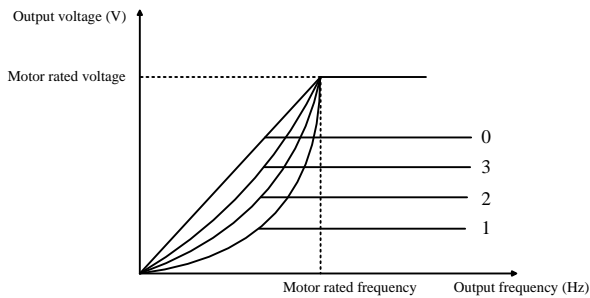

Figure 4-2 Motor V/F curve
- When P01.22 is 0, user can define the different fold lines by setting of P02.01~P02.02. The default V/F is a straight line, as the line 0 in Figure 4-2.
- When P01.22 is 1, it is a 2.0 law ramp, curve1 in figure 4-2.
- When P01.22 is 2, it is a 1.7 law ramp, curve2 in figure 4-2.
- When P01.22 is 3, it is a 1.2 law ramp, curve3 in figure 4-2.